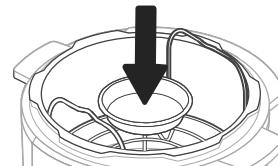

Figure 9.4
- Pour 354 mL of water into the inner pot and place the steam rack inside, then place the springform pan onto the steam rack. **[Figure 9.4]**